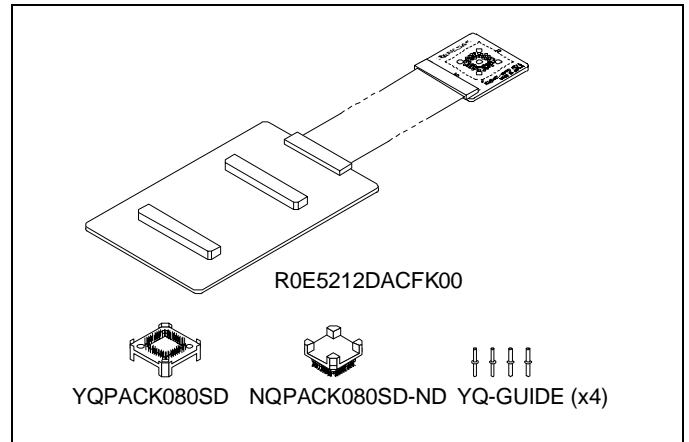

Figure 1 Package components of the R0E5212DACFK00
2. Package Components (See Figure 1)